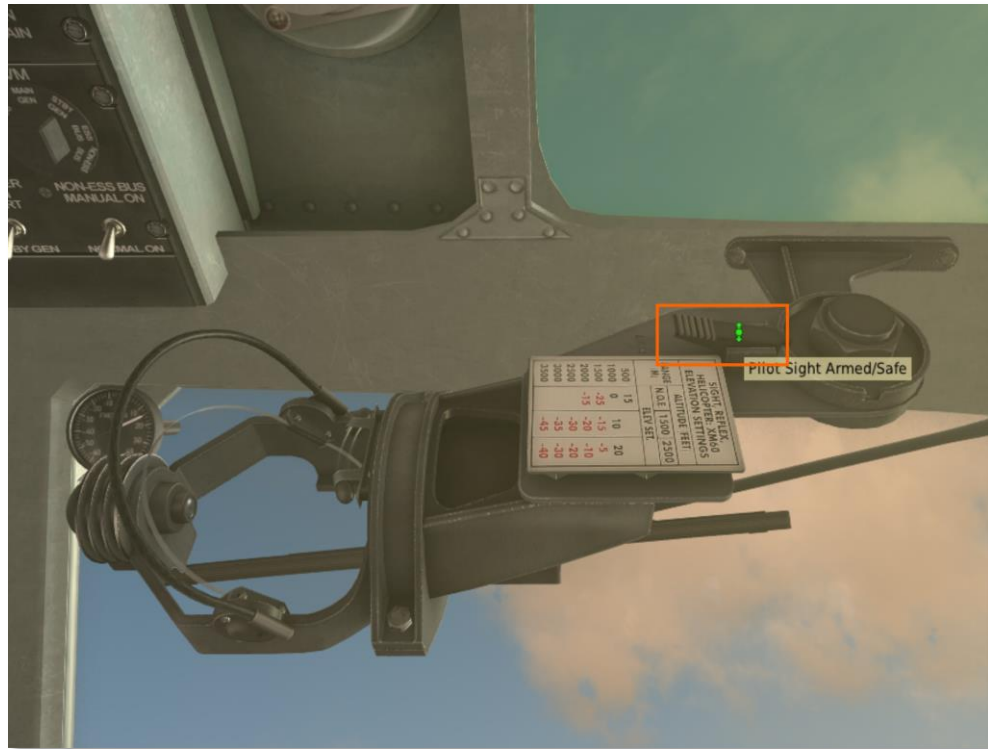

Figure 8.12. The locking lever of the XM60 infinity sight.
- a) Depress the locking lever to disengage the sight from the stow indent [\[LMouse click\]](#) or [\[RShift+M\]](#) (see Figure 8.7, Figure 8.12),